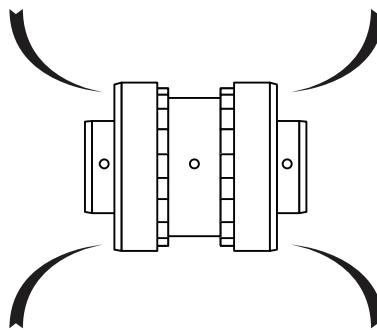

Figure 16- Parallel Alignment
13. Check angular alignment with a micrometer, vernier, or caliper. Measure from the outside of one flange to the outside of the other at intervals around the edge of the coupling flanges. Determine the maximum and minimum dimensions **WITHOUT ROTATING THE FLANGE COUPLINGS**. These measurements must be within .070 inches. If correction is necessary, be sure to recheck the parallel alignment. Reference Figure 16.